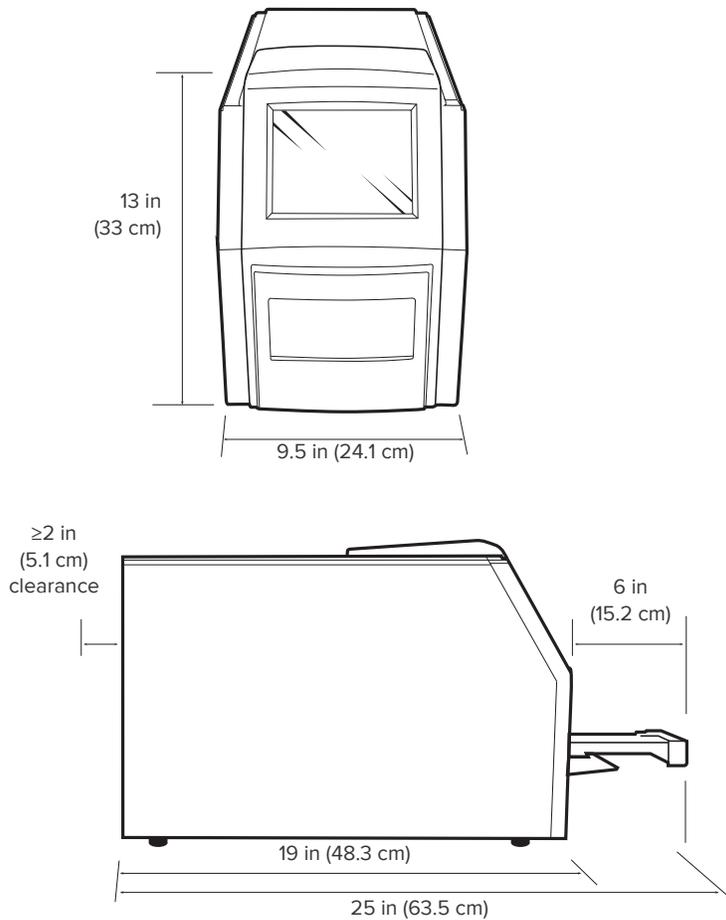

Figure 3. IFC controller dimensions
- 2 Provide at least 2 in (5.1 cm) of clearance behind the controller to allow adequate air circulation. See Figure 3 on page 39.